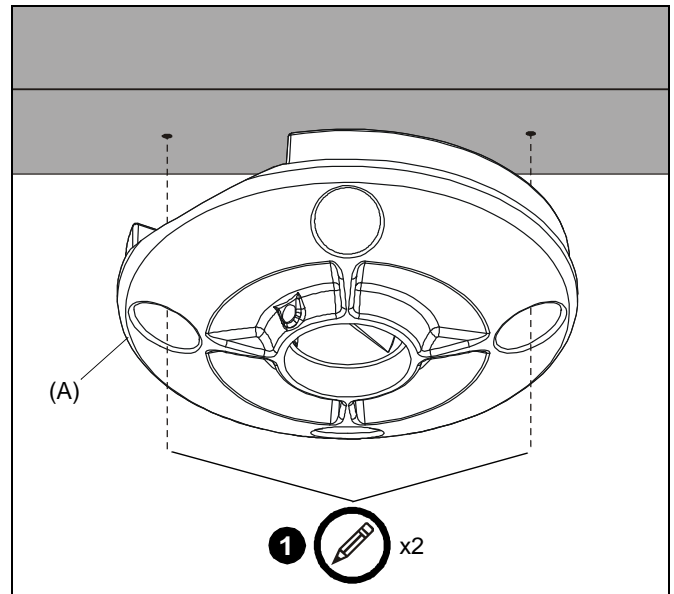

Figure 1
- Using plate (A) as a template, mark locations of two pilot holes (See Figure 1). Ensure the following:
- Opposite holes in plate (A) are marked, and